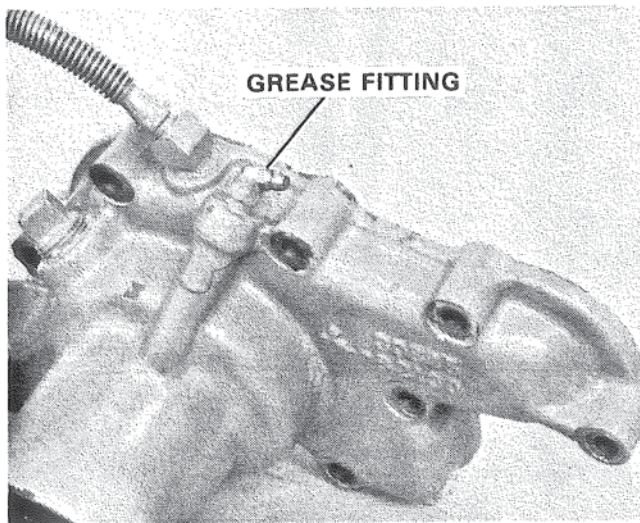

Figure 8. Grease Fitting Location.
9. For lubrication or replacement, grease fitting location is shown in Figure 8.